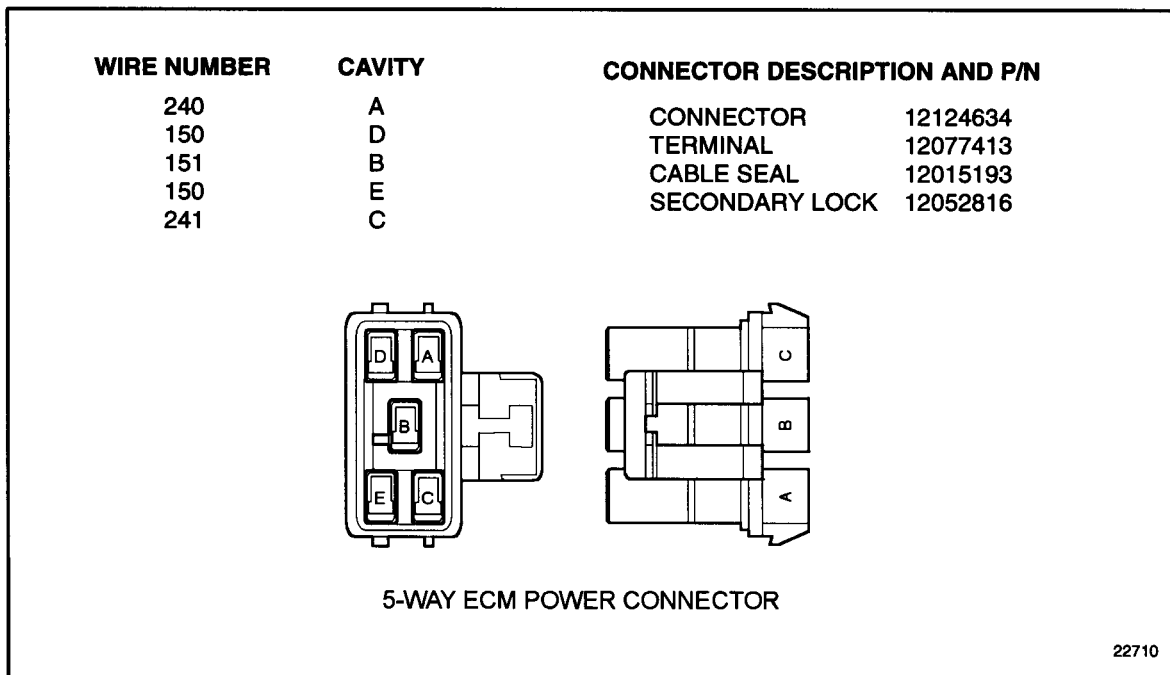

Figure 46-3 5-Way ECM Power Harness
2. Measure voltage at socket A of one fuseholder (red lead) to a good ground (black lead). For 5-way ECM power harness, see Figure 46-3.
1. Disconnect the 5-way power harness connectors at the ECM. For 5-way ECM power harness, see Figure 46-3.